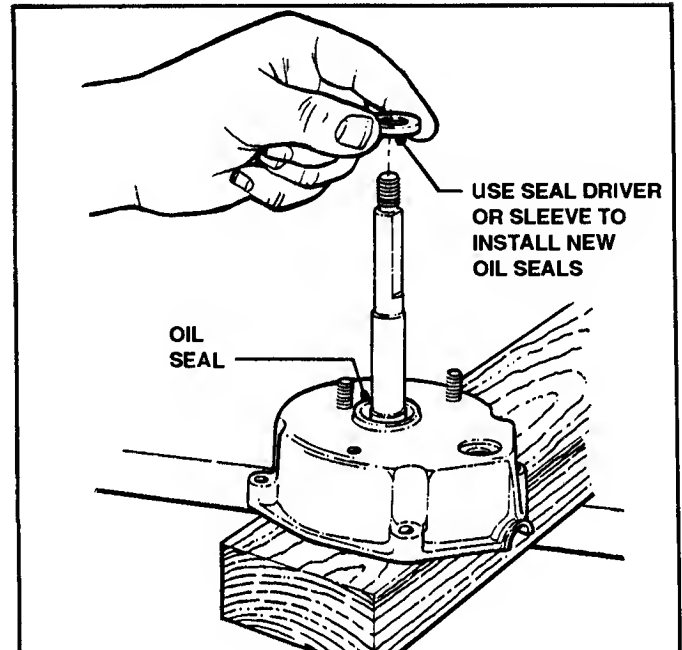

FIGURE 5.16
- (b) Press or drive Seal into Housing, using a Seal Driver of appropriate dimensions. See Figure 5.16.